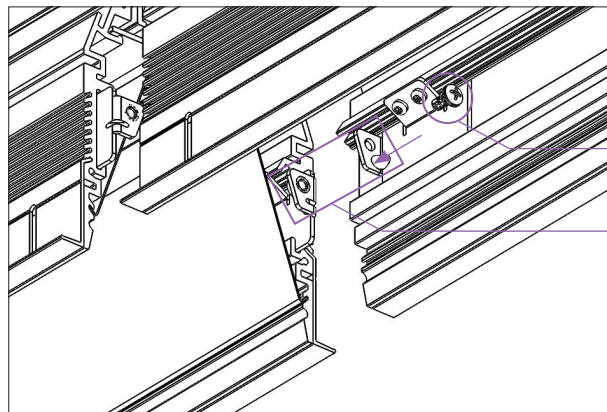

fig. 18
- b. Align the two fixtures' joining brackets within the sidewall channels and secure them. To secure the brackets, use the provided Phillips #2 M4 screws. (See fig. 18.)